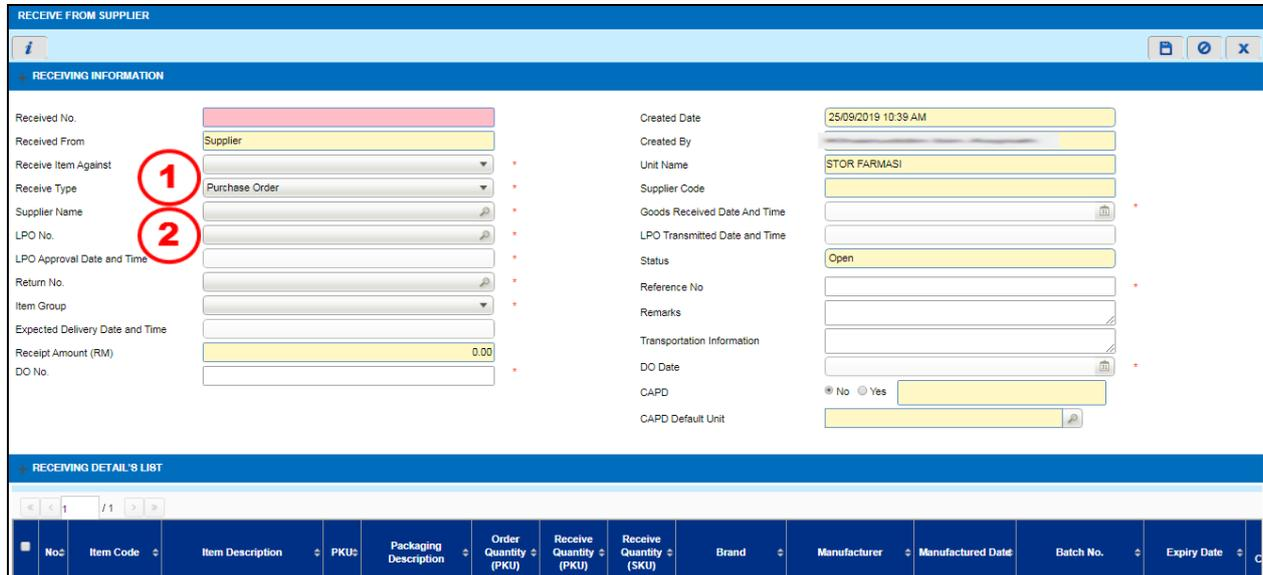

Figure 4.1.5-1 Receive from Supplier
- Refer to Figure 4.1.5-1 to create a new Receive from Supplier transaction.